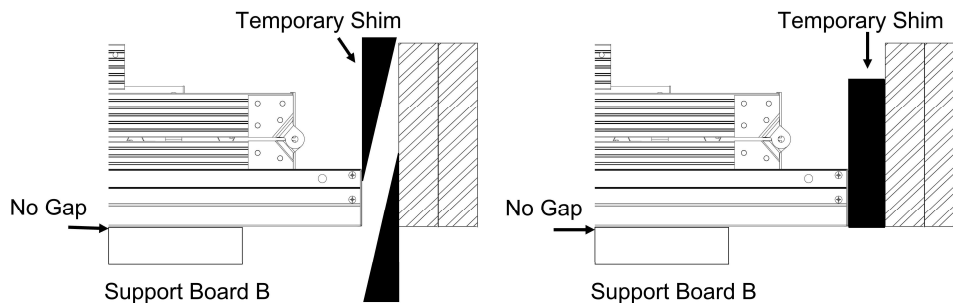
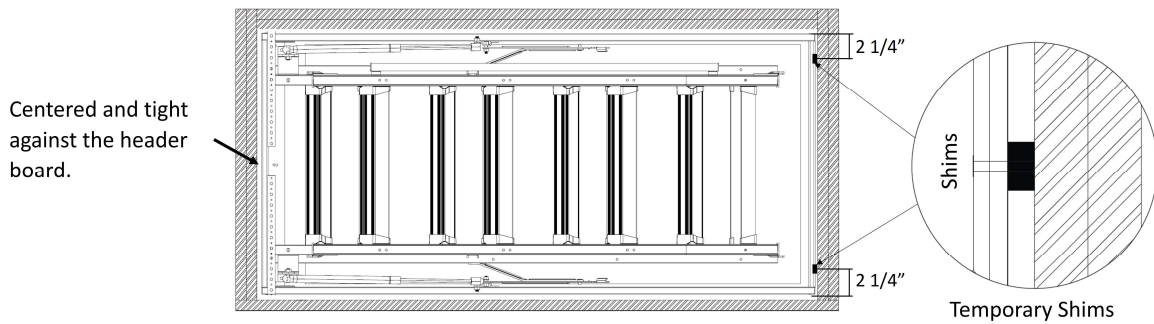

FIGURE 12 : SHIMMING THE FOOTER
FIGURE 13 : SHIMMING THE FOOTER
J. Installer #1 & #2: Place temporary shims from below and above between the aluminum frame and the rough opening at the footer end to keep the opposite end (header/hinge) CENTERED within the rough opening and TIGHT AGAINST THE HEADER BOARD. See **Figure 12**. Temporary shims should provide uniform support so there is no twisting or bowing of the aluminum frame. See **Figure 13** for temporary shims locations at the footer end. Make sure the attic ladder is firmly supported on the temporary supports and has not been lifted.
M. Installers #1 and #2: With the header end of the attic ladder supported by metal straps, the footer end of the frame can now be secured. Check again that the header is tight against the header board and temporary shims are positioned at the footer according to **Figure 13** and that the attic ladder has not lifted off the temporary support boards.